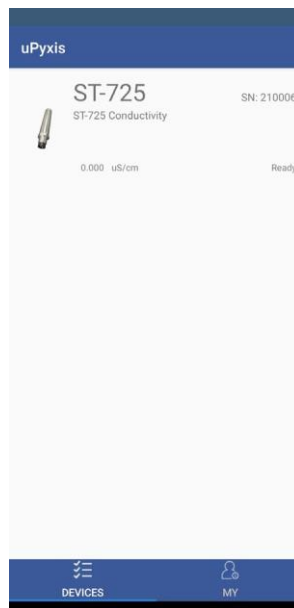

Figure 8.
3. If the connection is successful, the ST-724, ST-725 and ST-728 and its Serial Number (SN) will be displayed (Figure 8).